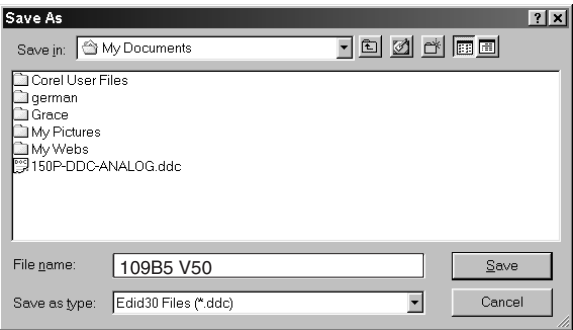

Fig. 19
1. Click  (Save) icon (or click "file"-> "save as") from the tool bar and give a file name as shown in Fig. 19.